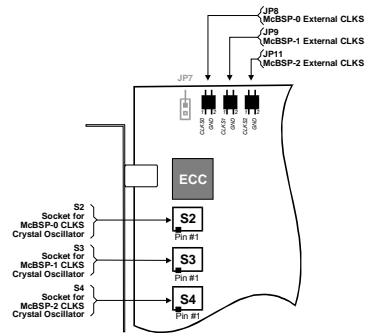
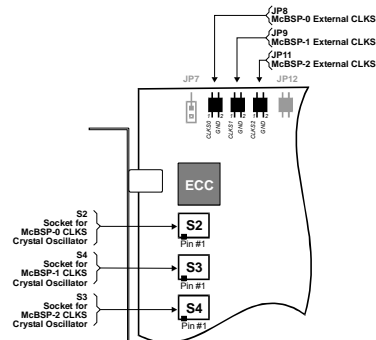

Fig. 2-18b. McBSP-0/McBSP-1/McBSP-2 external serial clock connectors and crystal oscillator sites at *TORNADO-P6202/P6203* mainboard.
Fig. 2-18c. McBSP-0/McBSP-1/McBSP-2 external serial clock connectors and crystal oscillator sites at *TORNADO-P64xx* mainboard.
- from 5v TTL/CMOS crystal oscillators in 4-pins DIP-8 IC package, which can be installed into on-**TORNADO-P6x** board S2 socket (for McBSP-0 port), S3 socket (for McBSP-1 port) and S4 socket (for McBSP-2 port for **TORNADO-P6202/P6203/P64xx** DSP systems only) (refer to fig.2-2, fig.2-18b, fig.2-18c and fig.A-1).